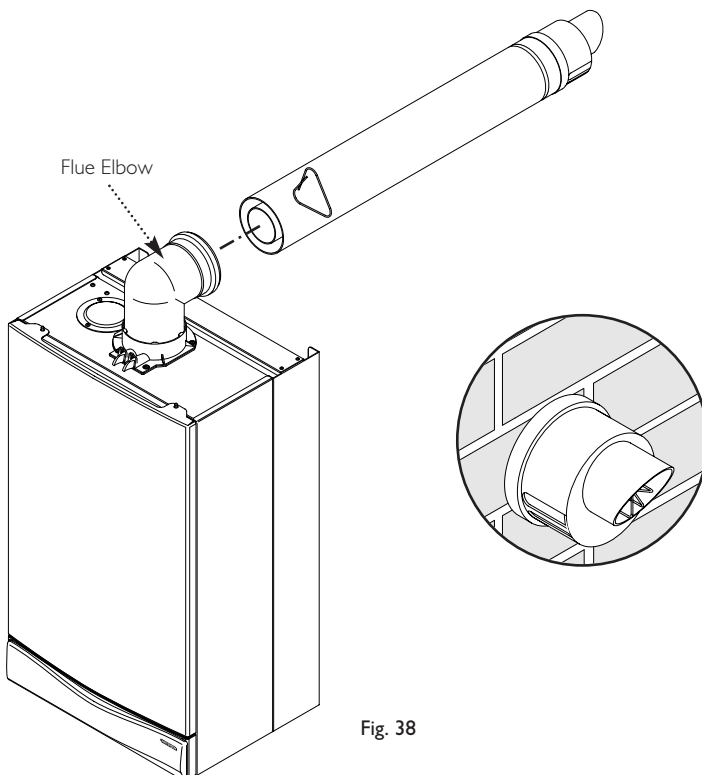

Fig. 38
9. Draw the flue back through the wall and engage it in the elbow. It may be necessary to use soap solution or similar to ease assembly of the elbow adaptor and flue (Fig. 38).